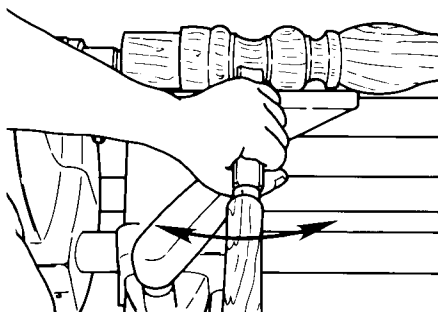

Figure C-47
- b. Cut the coves. Feed a gouge slowly into the stock, then move the handle of the tool from side to side to shape the cove. See Figure C-47.